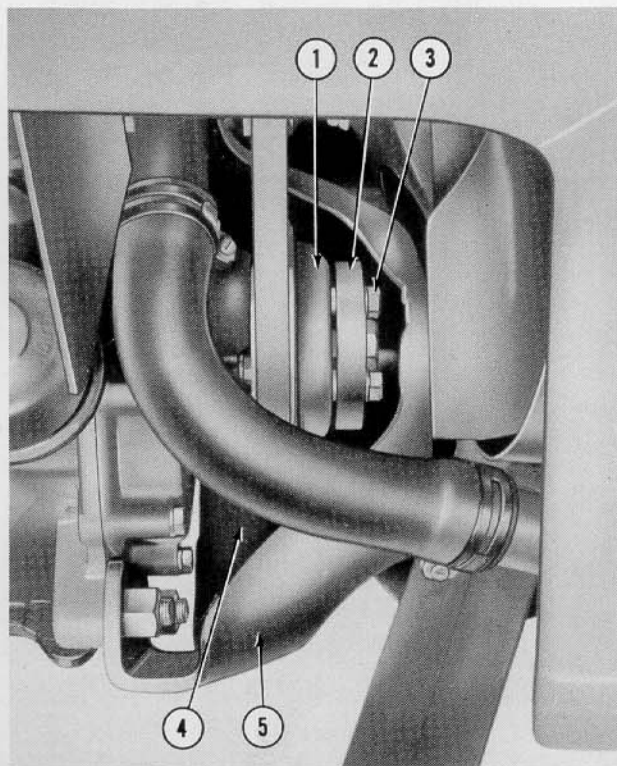

Figure 4
2. Attach the drive plate (2), Figure 4, to the tractor crankshaft pulley (1) as follows:
- d. Position the assembly on the front of the crankshaft pulley (1), Figure 4, by working it through the opening (4) on the right side of the engine suspension plate (5). Caution must be taken to position the drive plate without dropping the cap screws (3) from the drive
- e. Use a thin wrench to tighten the cap screws (3), Figure 4.